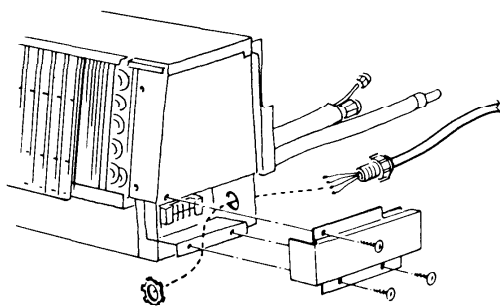

Fig. 14
- c) Unscrew the cover plate of the electrical component box. Fig. 14